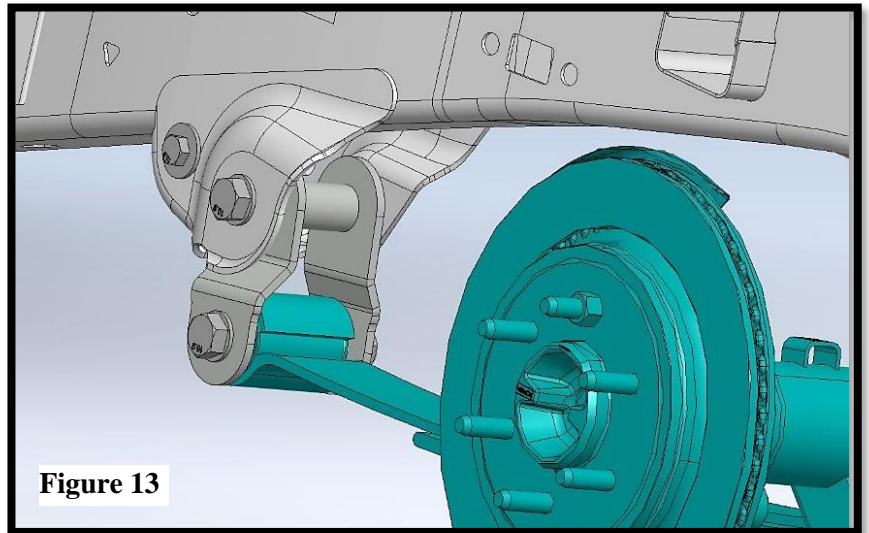

Figure 13
- 5) Install the front leaf spring connection to the front QA1 mount using M18 x 2.5, 130mm long bolts with M18 nyloc nut. (Figure 13)